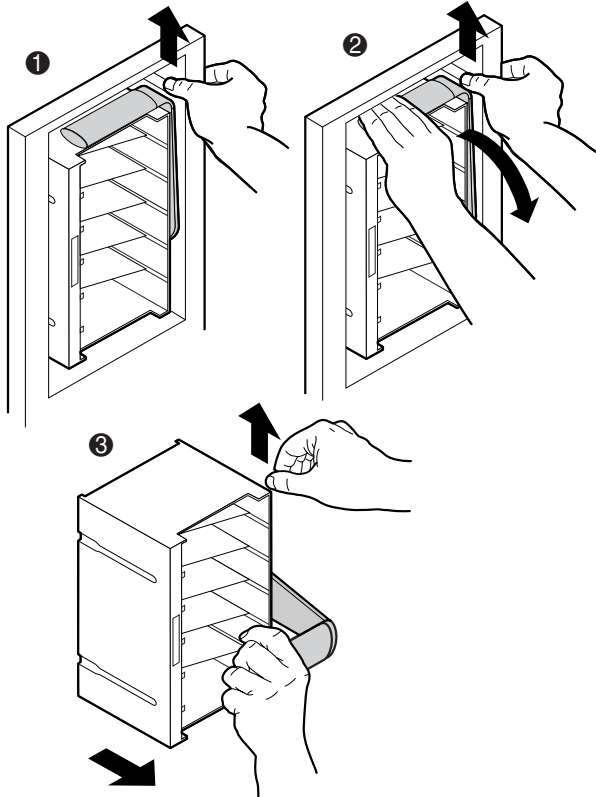

Figure 2-16. Removing a load pack
1. Release the handle on the load pack (❶ Figure 2-16).
2. While holding the handle release, pull the load pack handle down (❷ Figure 2-16).
3. While holding the handle release, remove the load pack (❸ Figure 2-16).